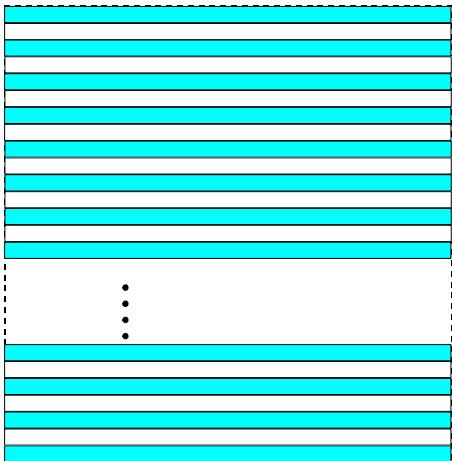

Fig. 98: Decimation of 2 (Mono Cameras)
- 2 for mono cameras: only every second row of the acquired frame will be transmitted out of the camera (Figure 98).